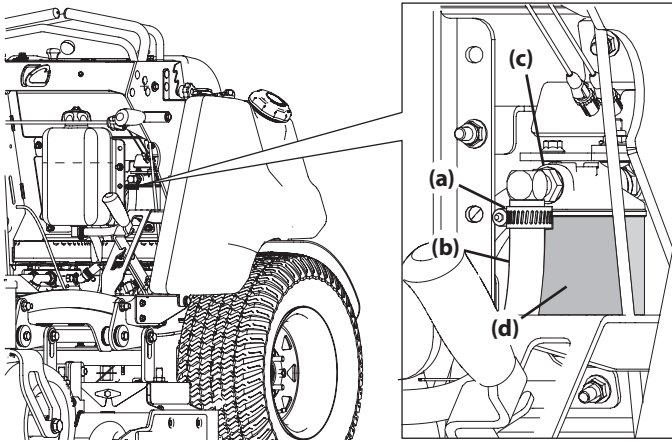

Figure 23
- Loosen the hose clamp (a) securing the transmission oil hose (b) to the transmission oil filter assembly (c). See Figure 23.